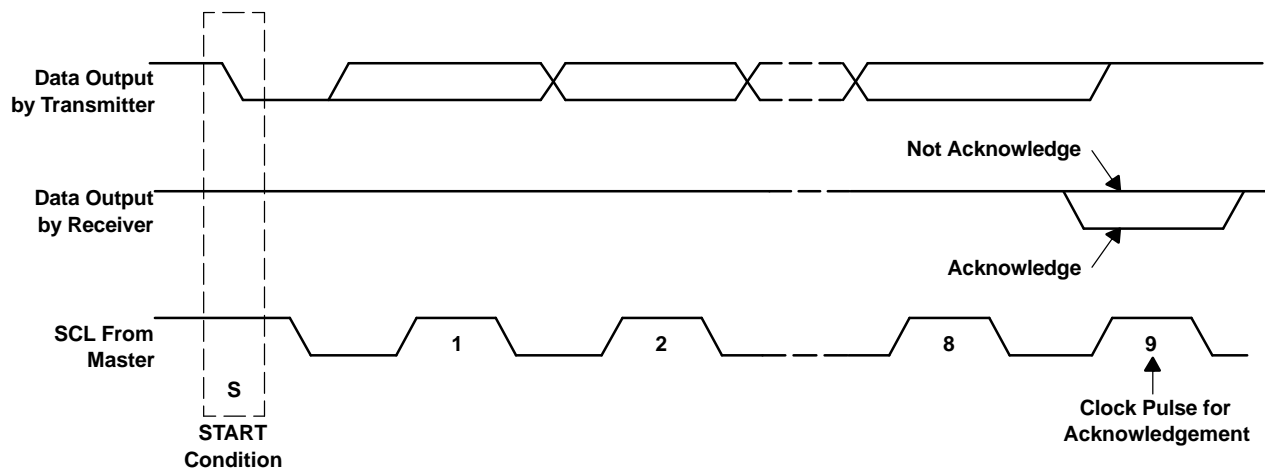

**Figure 41. START and STOP Conditions**
- The *master* initiates data transfer by generating a *start condition*. The *start condition* is when a high-to-low transition occurs on the SDA line while SCL is high, as shown in Figure 41. All I2C-compatible devices should recognize a *start condition*.
- To signal the end of the data transfer, the master generates a *stop condition* by pulling the SDA line from low to high while the SCL line is high (see Figure 41). This releases the bus and stops the communication link with the addressed slave. All I2C compatible devices must recognize the stop condition. Upon the receipt of a *stop condition*, all devices know that the bus is released, and they wait for a *start condition* followed by a matching address.